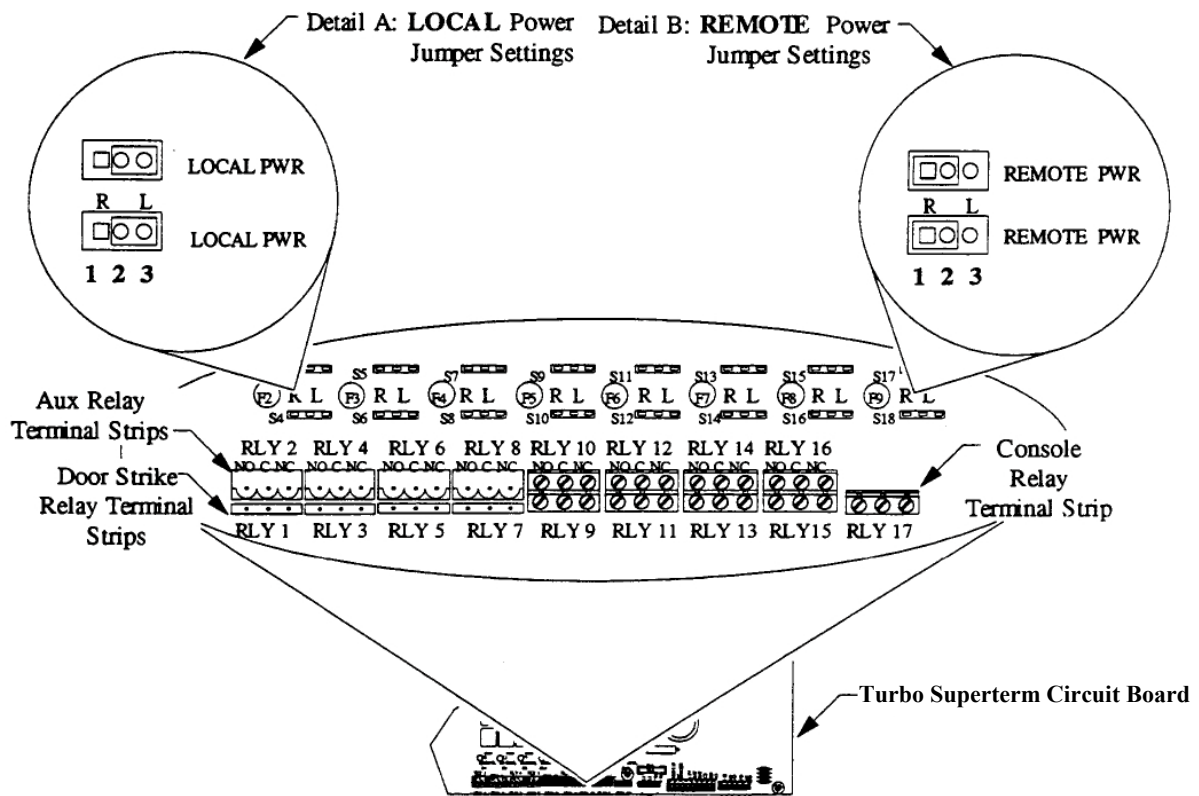

Figure 49 - Turbo Superterm Door Strike Jumper Settings
The jumpers, labeled S3 through S18, are located on the Turbo Superterm circuit board below the bank of relays and between the relay fuses (see Figure 49).
- Verify that both jumpers for the associated relay (see Table 50) contact the center post, pin 2, and the right-hand post, pin 3 (see Figure 49, Detail A).
- Verify that both jumpers for the associated relay (see Table 50) contact the center post, pin 2, and the left-hand post, pin 1 (see Figure 49, Detail B).